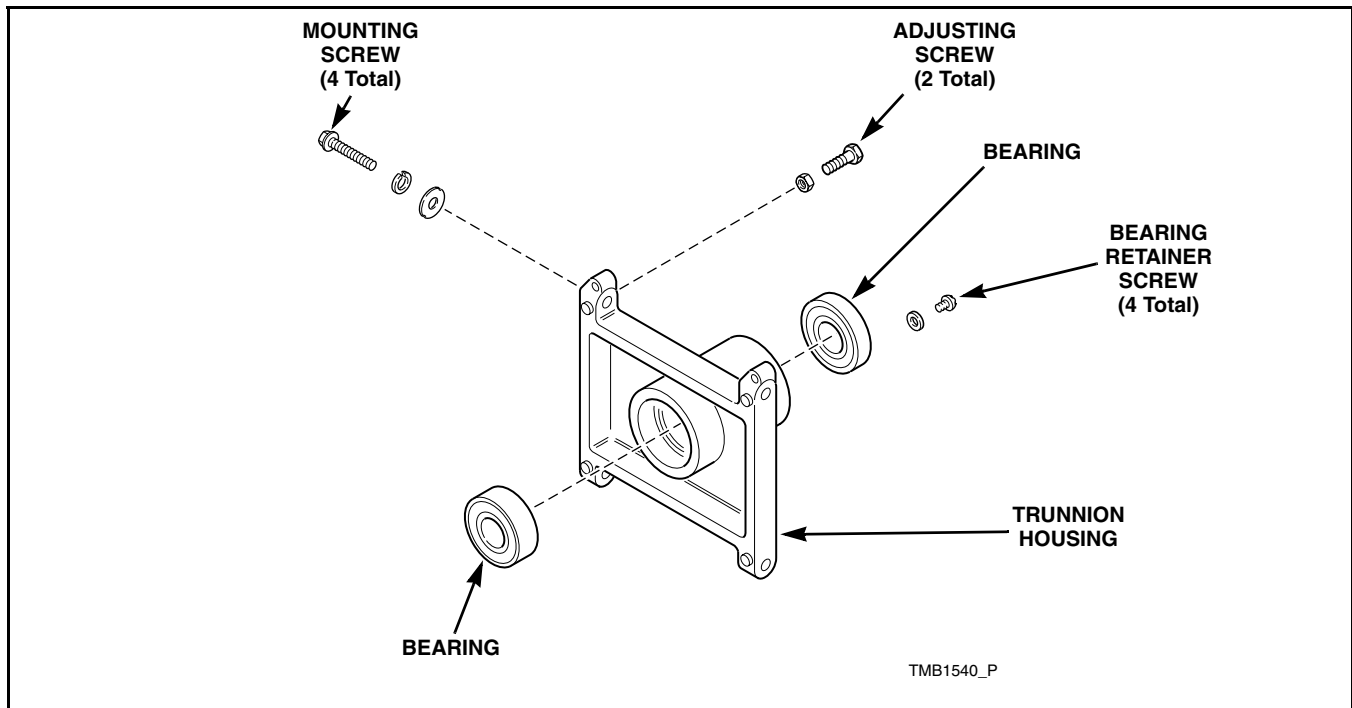

Figure 14
- Remove four adjusting screws holding trunnion housing assembly to rear of cabinet. Refer to *Figure 14*.
- Remove four bearing retainer screws holding the small bearing in housing. Refer to *Figure 14*.